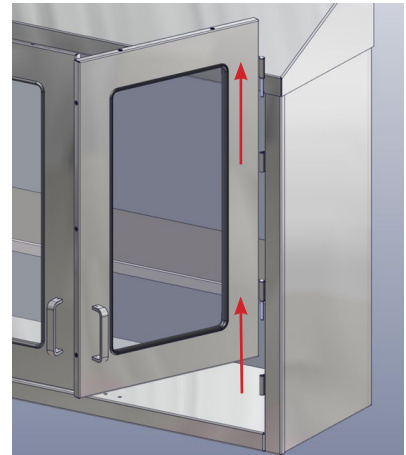

Fig. 1: Lift door from hinges
1. If the High Cabinet is equipped with doors, they may be removed for ease of installation. To remove the doors, open the doors fully and lift them off their hinges. The pin on the hinge of the door will slide out of the barrel of the hinge on the cabinet. (Fig. 1).
1. Remove the cabinet doors if desired for ease of adjustment. Open the doors fully and lift them off of their hinges. The pin on the hinge of the door will slide out of the barrel of the hinge on the cabinet (Fig. 1, page 6).
1. Make sure that the cabinet is empty and shelves removed before installing the banked cabinets. Remove the doors prior to this operation (see Fig. 1, page 6).